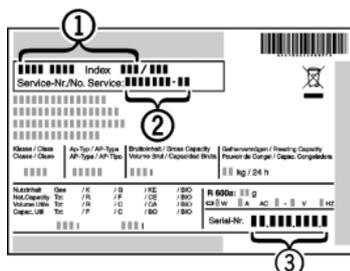

Fig. 20
- ▶ Read off the appliance name Fig. 20 (1), service no. Fig. 20 (2) and serial no. Fig. 20 (3) from the model plate. The model plate can be found on the inside of the appliance on the left.